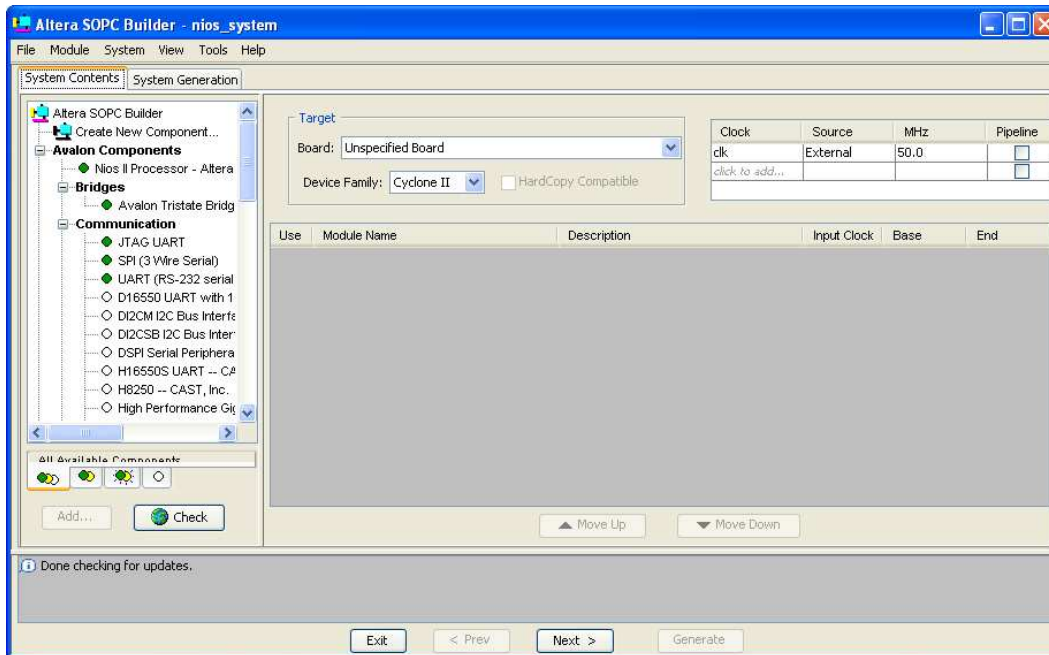
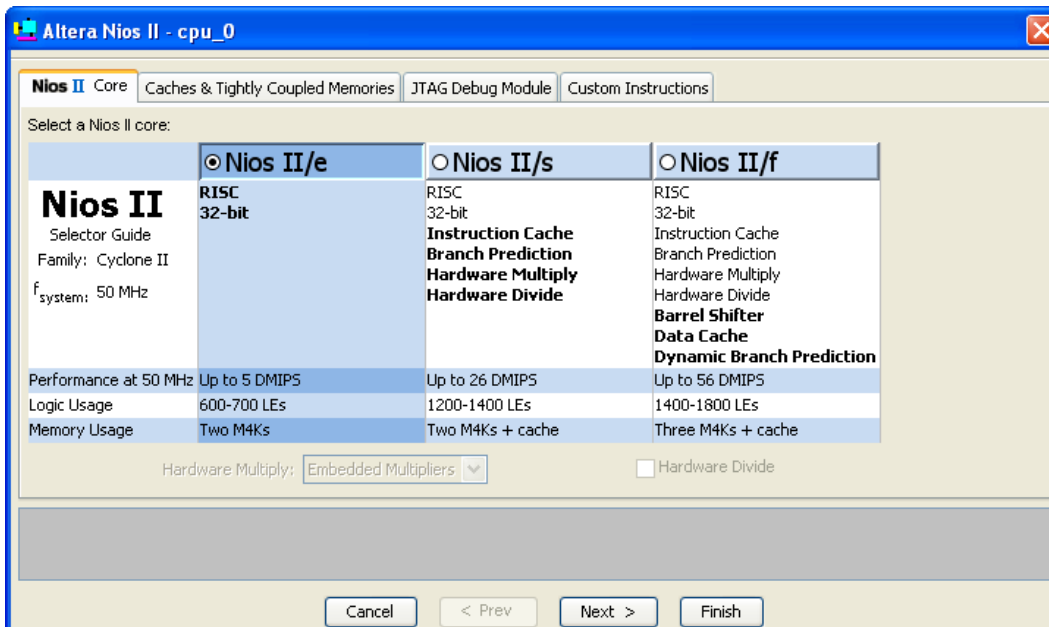
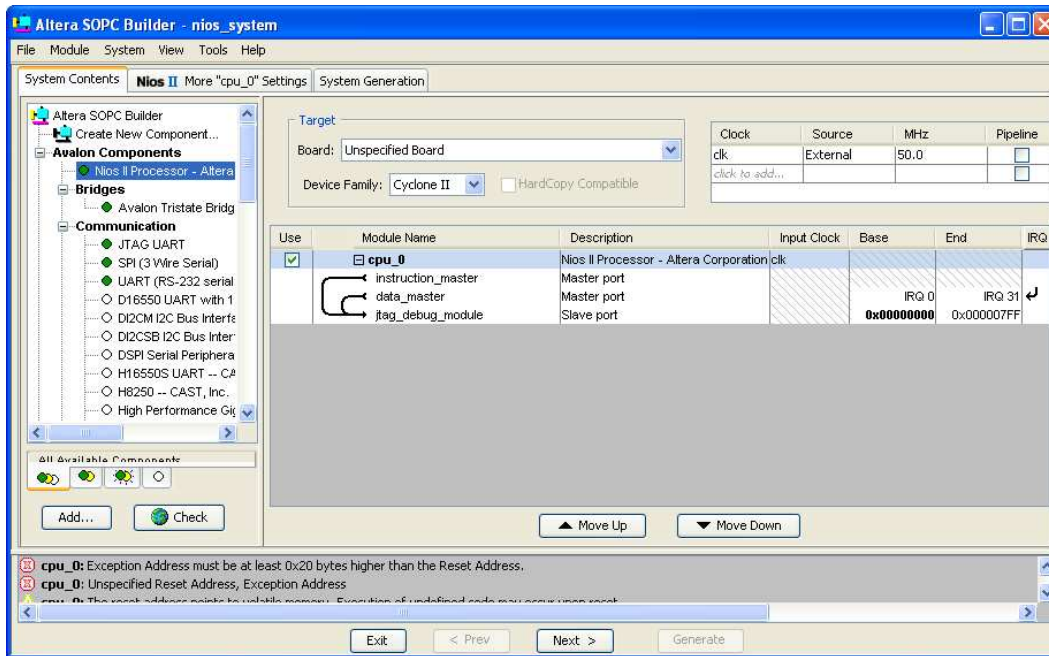

Figure 5. The System Contents tab window.
Figure 6. Create a Nios II processor.
Figure 7. The defined processor.
2. Select Tools > SOPC Builder, which leads to the pop-up box in Figure 4. Enter *nios\_system* as the system name; this will be the name of the system that the SOPC Builder will generate. Choose Verilog as the target HDL, in which the system module will be specified. Click OK to reach the window in Figure 5.
3. Figure 5 displays the System Contents tab of the SOPC Builder, which is used to add components to the system and configure the selected components to meet the design requirements. The available components are listed on the left side of the window. Before choosing our components, examine the area in the figure labeled **Target**. A drop-down list is provided that allows some available Altera boards to be selected. It is not necessary to select a board, and since the DE2 board is not included in the list leave the selection as Unspecified board. Next, check the setting for the Device Family and ensure that Cyclone II is selected.
4. The Nios II processor runs under the control of a clock. For this tutorial we will make use of the 50-MHz clock that is provided on the DE2 board. As shown in Figure 5, it is possible to specify the names and frequency of clock signals in the SOPC Builder display. If not already included in this list, specify a clock named *clk* with the source designated as External and the frequency set to 50.0 MHz.
- On the left side of the window in Figure 5 select Avalon Components > Nios II Processor - Altera Corporation and click Add, which leads to the window in Figure 6.
- Choose Nios II/e which is the simplest version of the processor. Click **FINISH** to return to the window in Figure 5, which now shows the Nios II processor specified as indicated in Figure 7. There may be some warnings or error messages displayed in the SOPC Builder Messages window (at the bottom of the screen), because some parameters have not yet been specified. Ignore these messages as we will provide the necessary data later. Observe also that a new tab called **Nios II More “cpu\_0” Settings** appears, which allows further configuration of the processor - we will not use it.